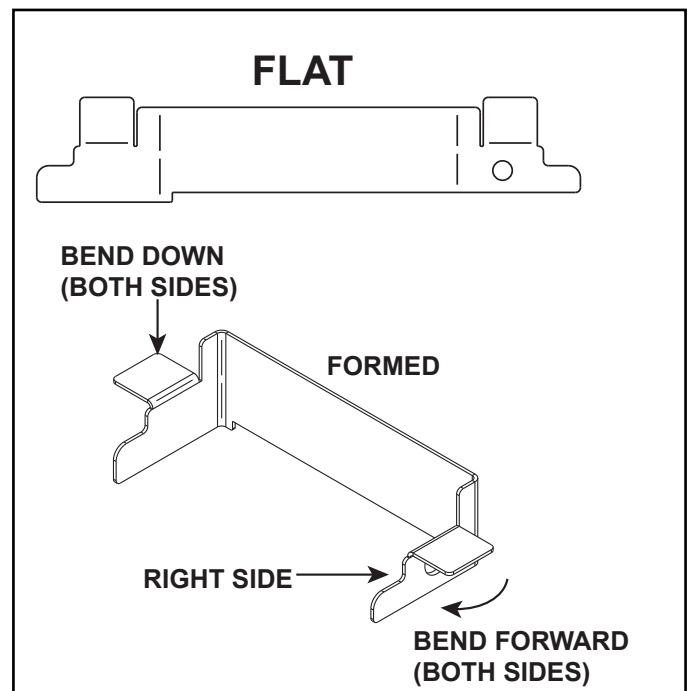

Figure 9.5 Pilot Shield - Flat and Formed
- Position the replacement pilot shield so that the hole is on the right side as shown in Figure 9.5.
- Bend the left and right hand bends forward 90 degrees as shown in Figure 9.5.